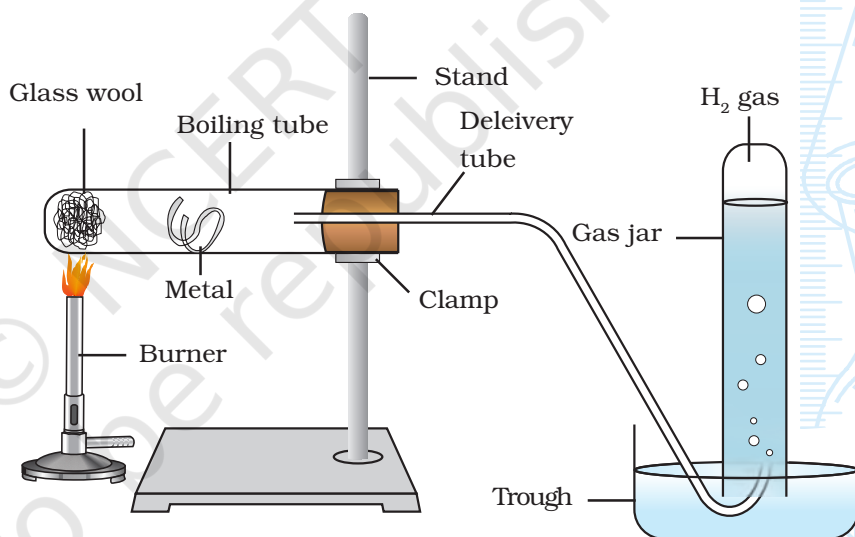

Fig. 12.1 : Action of steam on a metal
9. To see the reaction of metallic substances (as identified in step 8) with steam, arrange the apparatus as shown in Fig 12.1, and observe their reaction with steam.